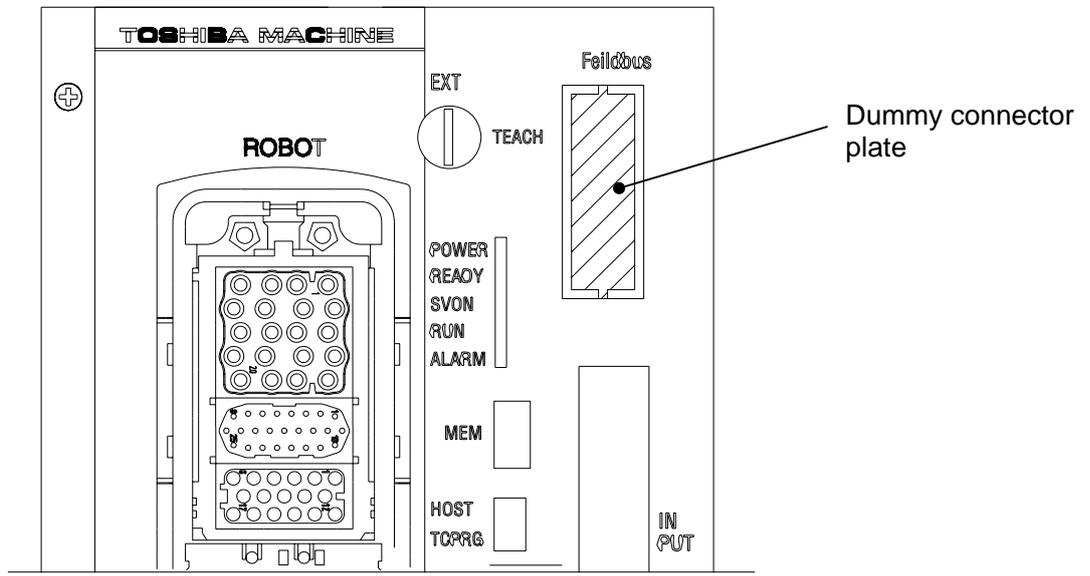

Fig. 6 TSL3000 Robot Controller Front Panel Top
- (3) Remove the dummy connector plate (shown as the cross-hatched section in Fig. 6) on the rear panel of the robot controller.